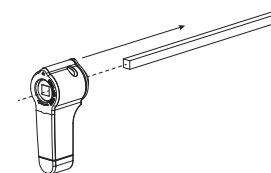

Fig. 2 Slide handle onto shaft
- Step 3** — Slide the NFPA 79 compliant handle onto the switch shaft and position it so that it will not interfere with reinstalling the shaft coupler, and its operation/rotation will not be interfere with other components in the enclosure. Reposition handle if necessary. See Fig 2.